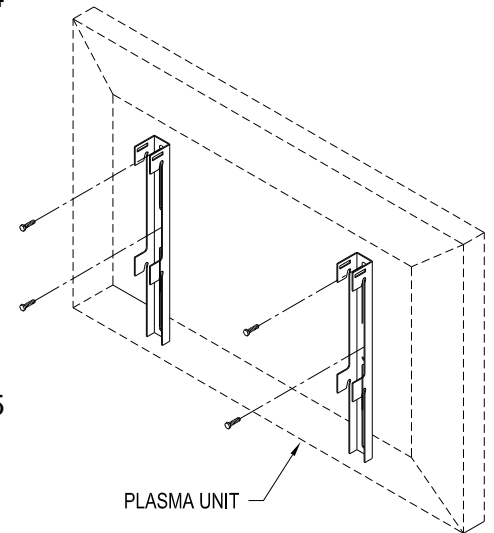

Figure 5
10. Mount the Hanging Brackets to the back of the plasma unit utilizing all of the fastener points recommended by the plasma manufacturer. See Figure 5.